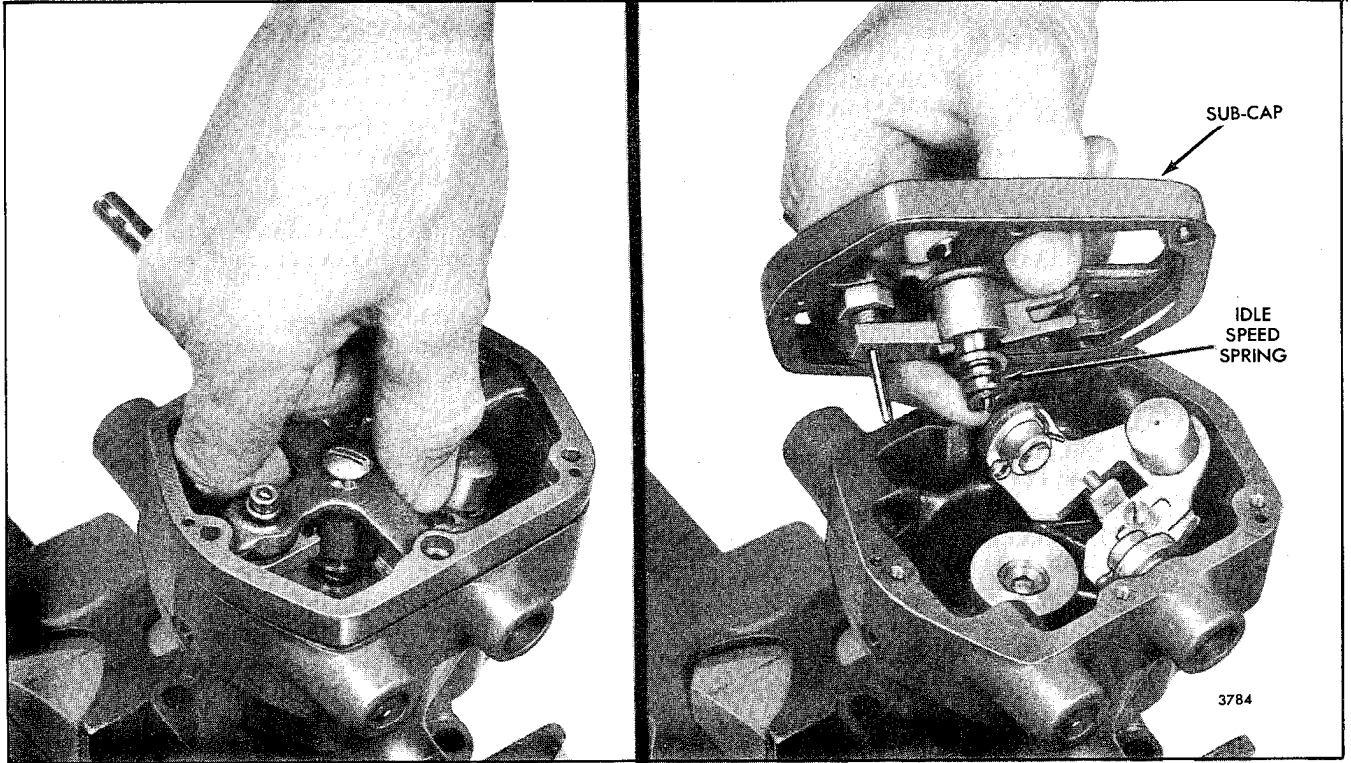

Fig. 11 - Removing or Installing Governor Sub-Cap Assembly
**NOTE:** Hold the idle speed spring seat or spring with your finger, as shown in Fig. 11, to prevent it from falling into the governor housing.
5. Check to make sure the idle speed adjusting pin is in position and place the idle speed spring against the spring seat. Then, holding the spring in place with your finger (Fig. 11) and holding the linkage so the pointer is near the 36° mark, install the sub-cap